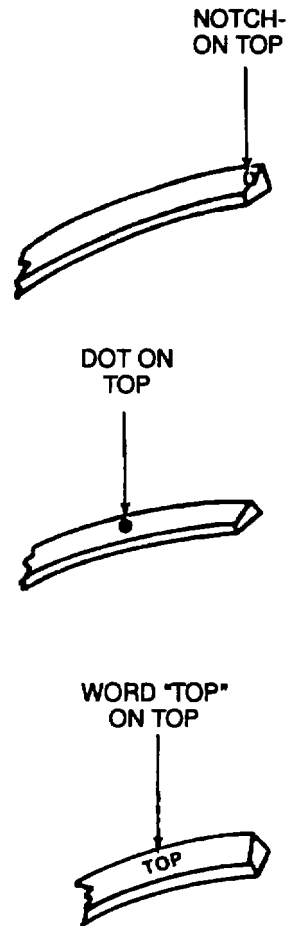

Figure 9-31. Identification of Top Side of Piston Ring
- (b) Identify the top of the piston rings in accordance with Figure 9-31.